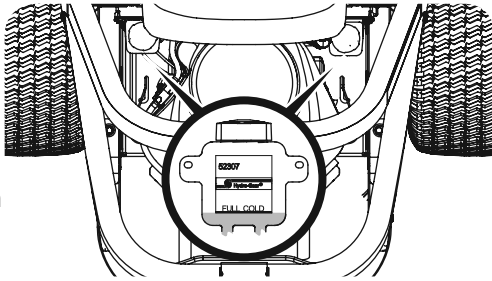

Figure 33
1. Clean the reservoir cap and the area around the cap to prevent debris from contaminating the transmission oil. See Figure 33.
2. Turn the reservoir cap counter-clockwise to remove, then check the oil level in the reservoir. Oil should be visible at the bottom of the cup, but the oil level must NOT be above the "FULL COLD" line. See Figure 33. **DO NOT FILL THE RESERVOIR.**
1. Remove the cap from the transmission oil expansion reservoir. See Figure 33.